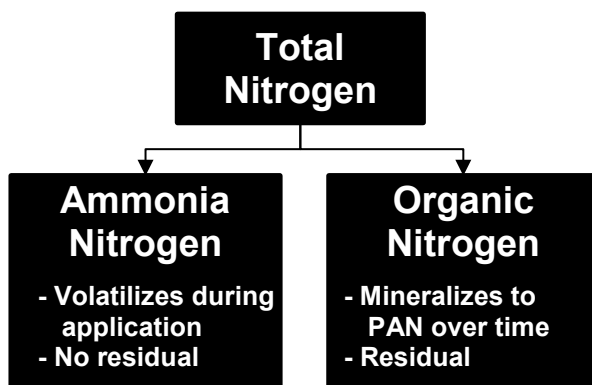

Figure 1. Nitrogen in manure.
Manure Ammonia Nitrogen. Analyze your manure for **ammonia nitrogen (AN)** (Figure 1). List the **AN** concentration in Worksheet Part 2. Ammonia volatilizes at different rates depending on how you land apply manure [4-6]. List your application method **Volatilization Factor (VF)** using Appendix Table 4. Manure ammonia does not provide “residual” nitrogen to future crops.
Manure Organic Nitrogen. The other form of manure nitrogen is Organic Nitrogen (**ON**), which can be calculated by subtracting **AN** from Total Nitrogen (Figure 1). List your manure **ON** in Worksheet Part 2. Manure organic matter is “mineralized” by soil bacteria to release plant available nitrogen. List the **Availability Factor (AF)** for your manure type in Worksheet Part 2 using Appendix Table 5. Some portion of the current manure application **ON** will likely become plant available for future crops as “residual” nitrogen (see Part 4), so retain the Worksheet to track **ON** applications over time.
Analyze Dairy Manure for Organic Nitrogen. Dairy manure ammonia nitrogen (**AN**) and organic nitrogen (**ON**) concentrations vary significantly from farm to farm. Test your dairy manure for **AN**, which will then allow you to calculate your manure **ON** as the difference between the Total Nitrogen and **AN** (**Figure 1**). This **ON** will likely provide crop available nitrogen for two years after manure application and is the basis for predicting the **FNC**.